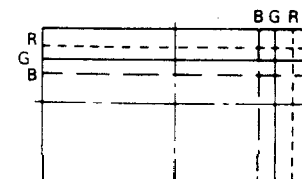

Figure 3-10.
- Convergence in Fig. 3-10.:
Insert wedge (b) deeply between the deflection yoke and CRT, and tilt the deflection yoke to left until the mis-convergence shown in Fig. 3-10 is corrected.